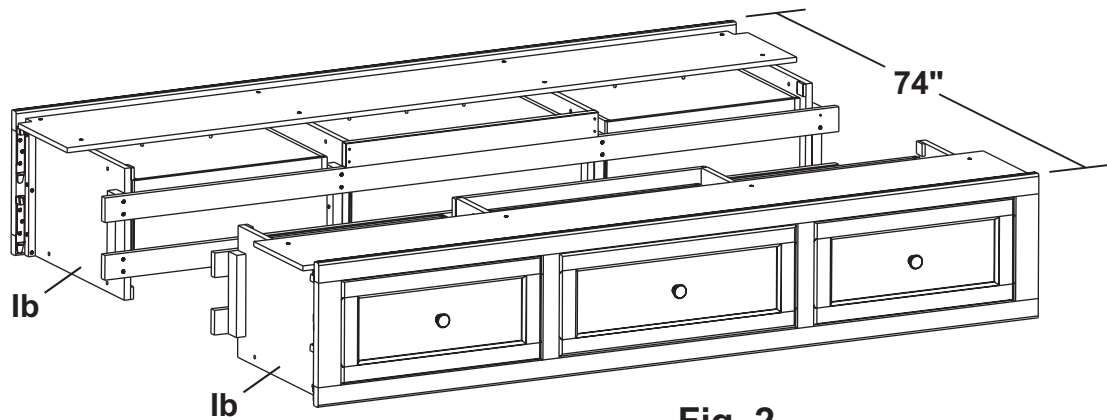

Fig. 2
2. Place both Pedestals (lb) approximately 74" apart as shown in Figure 2.